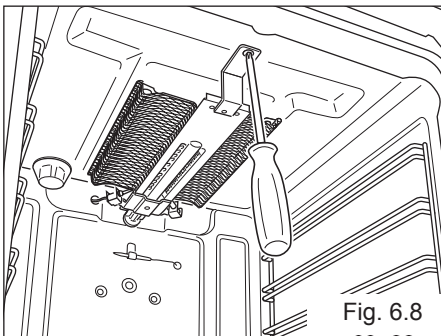

Fig. 6.8
- Remove the burner by unscrewing the front screw (fig. 6.8).